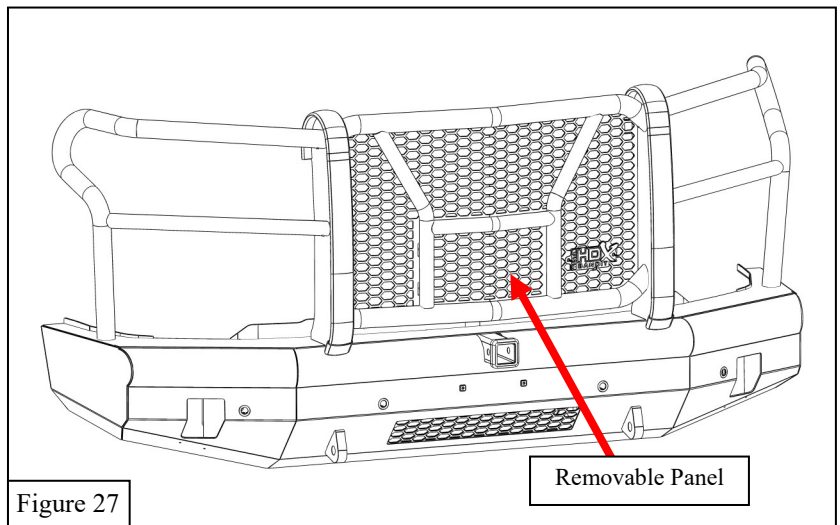

Figure 27
28. A removable mesh panel can be removed from the bumper to allow for better front camera visibility. See **Figure 27**.